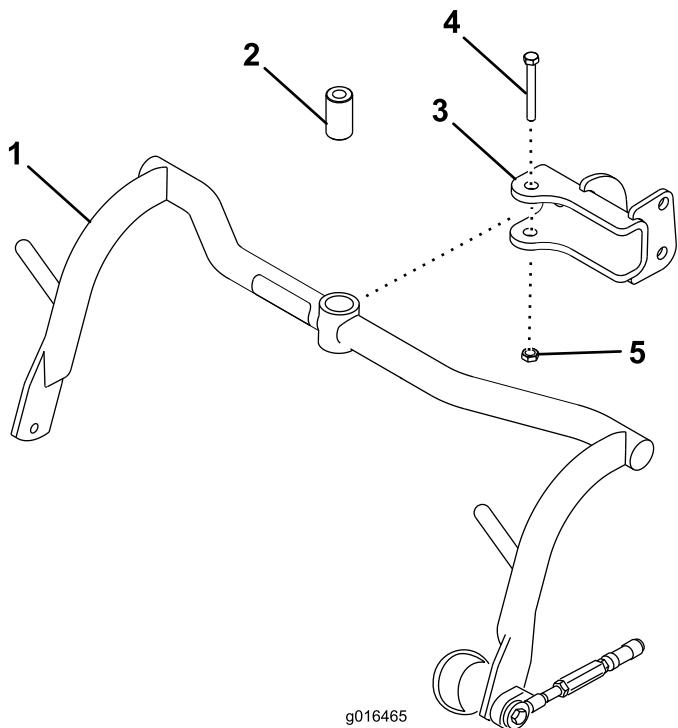

Figure 8
1. Mount a carrier frame assembly to each clevis with a spacer, 1/2 x 3-1/4 inch bolt and 1/2 inch locknut (Figure 8). Torque to 91–113 N·m (67–83 ft/lb).